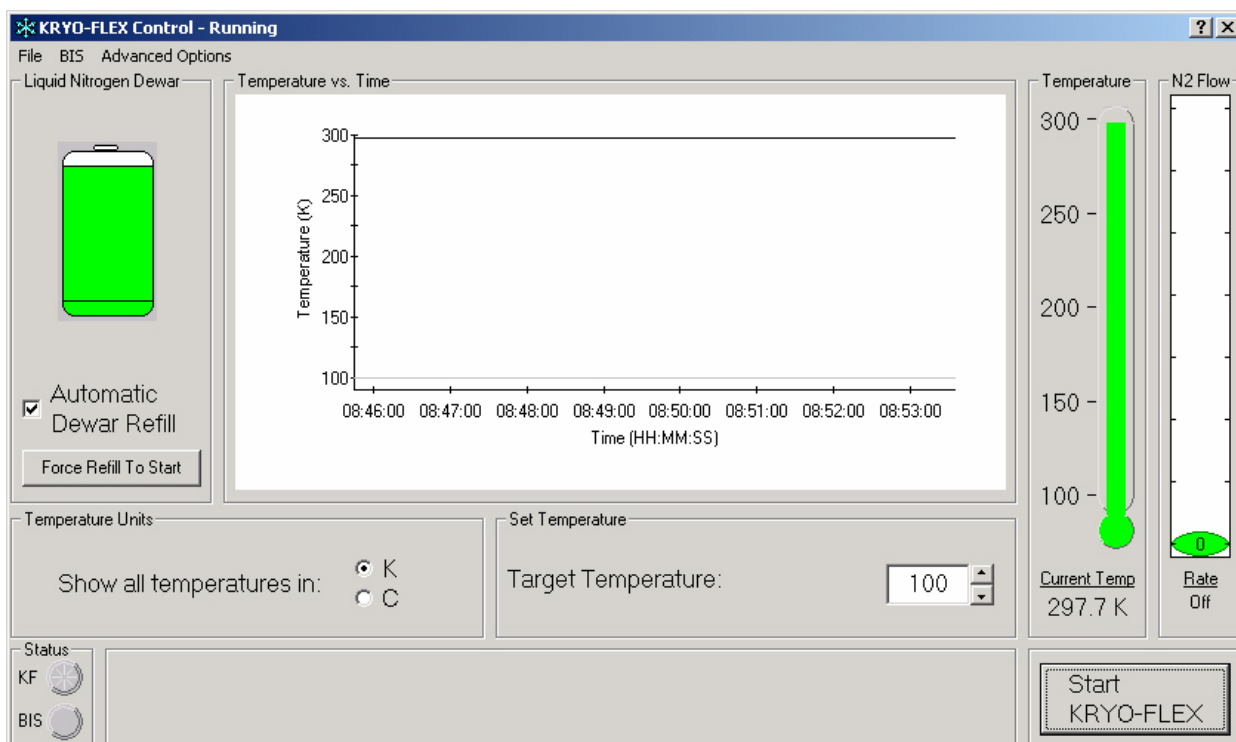

Figure 1. KRYO-FLEX Control-Running window
Before using the program, you will want to be familiar with the main window (Figure 1) and its features. This section explains those features.
During the cooling operation, a dark line forms (see Figure 1 example near 300° mark) to mark the exact temperatures at different points along the timeline. Two light lines form (see Figure 1 example near 100° mark—lines are so close, they appear as one) to indicate the acceptable range of temperatures for the current target temperature (the range being target temperature  $\pm 0.1$ ). These lines appear on the graph so that you can visually verify the temperature stability. During non-cooling, temperatures will rise to room temperature, and these will record in the graph for the extent of that period.
1. Double click the KRYO-FLEX icon (snowflake in standalone program, thermometer in the PROTEUM program) to start the KRYO-FLEX program. The KRYO-FLEX Control-Running window appears (recall Figure 1).